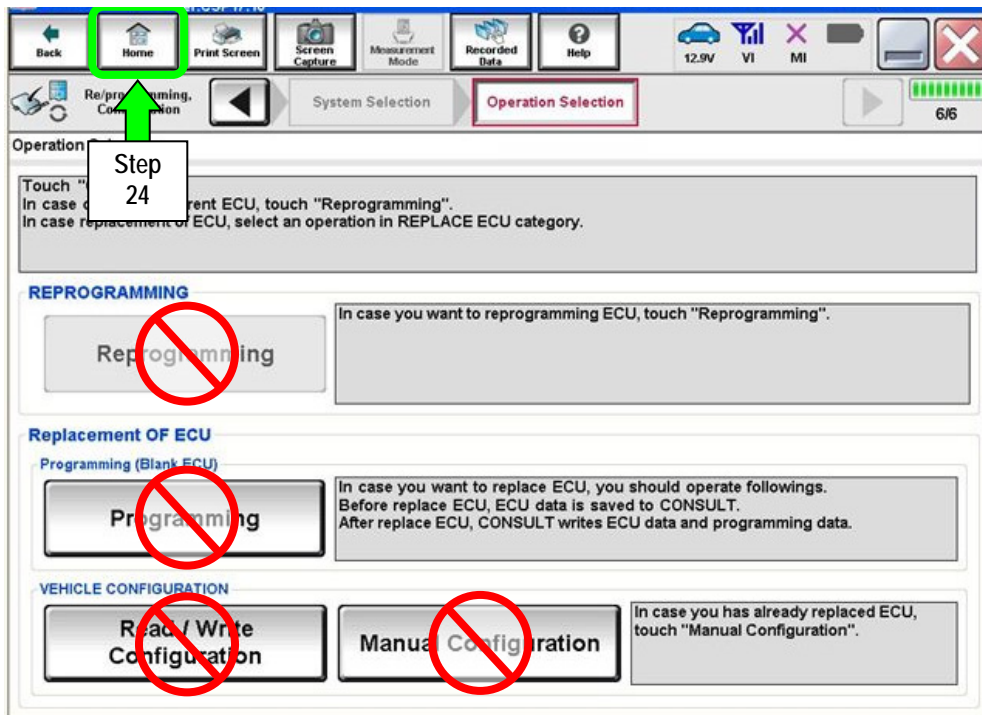

Figure 14
24. After **Confirm** is selected in step 23, the screen in Figure 14 will display. Select **Home**.